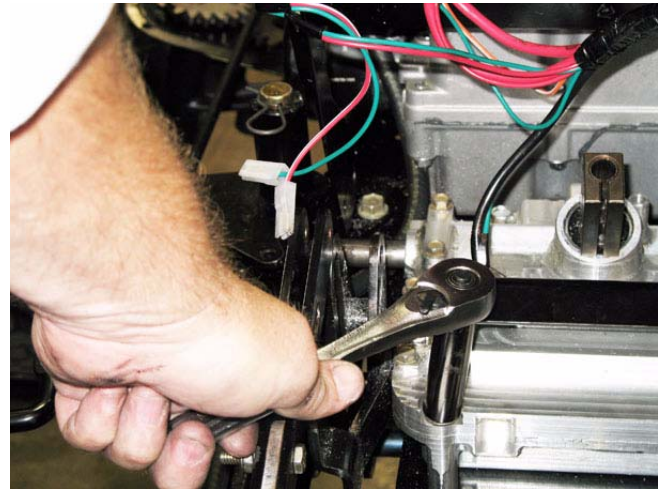

Figure 6.26
8. Remove the four screws holding the gear box to the frame with a 1/2" wrench. See Figure 6.26.